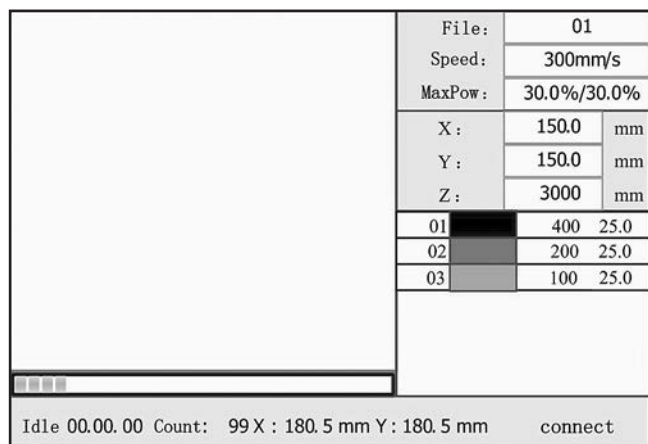

Figure 41. Example of status screen.
- When machine startup is completed, status screen will be displayed (see **Figure 41**).